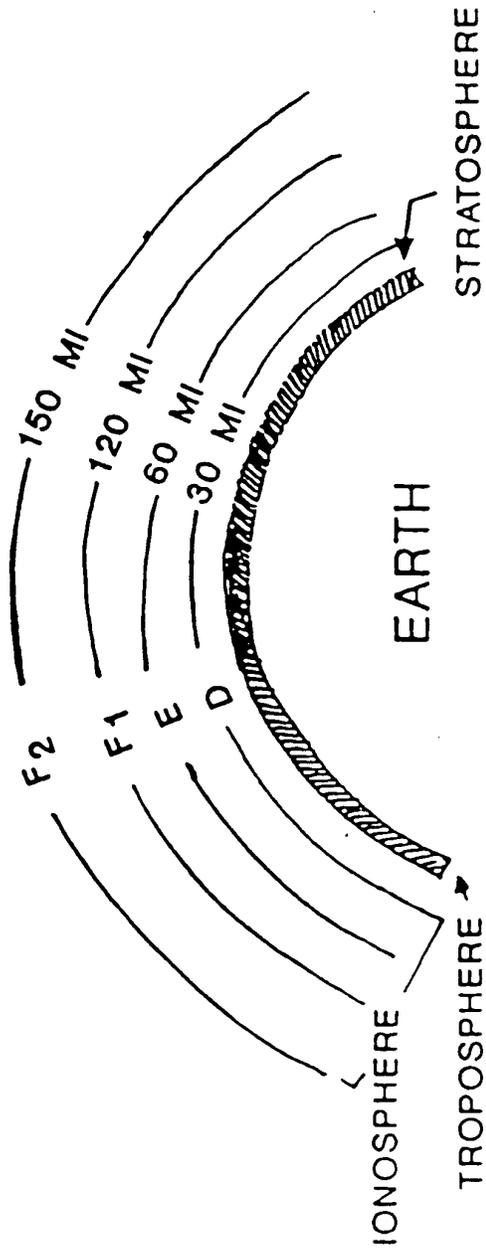
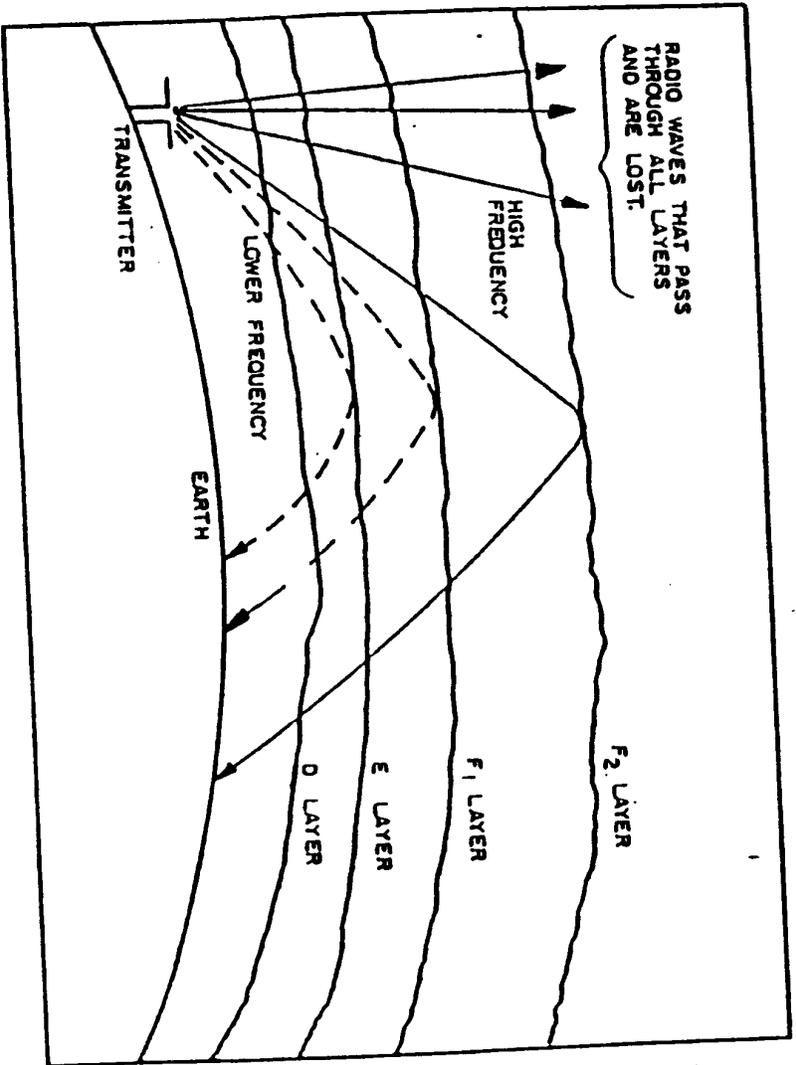

Figure 4
Figure 5. Skywave transmission paths.
THE IONOSPHERE: The ionosphere is an electrically charged region of atmospheric gases that surround the Earth. Ionization (electric charge) happens when solar radiation bombards atmospheric gas molecules and forces them to detach electrons leaving the gas molecule with a positive electrical charge called an ion and leaving free electrons in the atmosphere. Since positive electrical charges repel each other the gas ions tend to "bunch" in distinct "layers" of ions at heights of between 30 and 300 miles shown in fig 4. These charged areas will reflect radio signals back to earth if they strike the ionosphere at particular angles using particular frequency bands. Radio engineers have labeled these layers the D, E, F1 and F2 layers (see fig 4). 3 factors determine whether a radio signal will be reflected back to earth and can be used by Brigade THFRS communications systems. They are (1) the higher the radio frequency the more likely the signal will penetrate the ionosphere rather than be reflected by it, (2) the current ion density determined by the amount of sun light (time of day, season, solar activity) at the time communications is desired, and (3) the angle at which the radio wave contacts the ionosphere. See figure 5 for details. Note - that at any time of the day, year, or solar activity (sunspot) cycle there is always available a band of radio frequencies that can be reflected off the ionosphere and will support HF communications. The Automatic Link Establishment (ALE) feature of THFRS will find these frequencies for the operator from the list of authorized frequencies in the radio database. Signals on these frequencies can be used for Brigade tactical HF communications over distances of hundreds of miles unless very unusual and rare solar activity is occurring. Also note that the angle at which the wave front contacts the reflecting layer is determined by the radios antenna system. Low angles of radiation are produced by the OE-5 05 and AT- IO 1 1 vertical whips and high angle radiation is produced by bending the whips into the horizontal position with the whip tilt adaptor or by using the RF- 1 912 or RF- 1 941 wire dipole antennas 30 feet OR LESS above ground.
MAXIMUM USEABLE FREQUENCY (MUF)- LOWEST USEABLE FREQUENCY (LUF). Each layer of the ionosphere has a frequency that is the highest that the layer will reflect. The exact frequency is determined by the amount of ions in the layer. As seen in fig 5. the lower frequencies are reflected by the lower layers while the higher frequencies penetrate the lower layers and are reflected back by the higher layers. To cover the largest tactical area of operations possible the highest frequency that will reflect should be used since the higher the reflecting layer the wider the area covered by the reflection (see fig 5.). Since the ionosphere is always changing a general rule when in manual operation is to select a frequency 15% lower than the actual MUF to avoid problems. This frequency is called the frequency of optimum traffic (FOT). Signals on frequencies that exceed the MUF go through the ionosphere and are lost in outer space. The MUF is also different for different angles of reflection. Signals on lower takeoff angles can utilize higher frequencies for communications because they will be reflected. The ALE mode of THFRS will automatically prevent signals with a frequency above the @ from being selected for operations. A-LE will select the best radio frequency for communications on a continuous basis if used. A limitation of HF radio is the high radio noise (static) level on HF frequencies. Radio noise comes from sources in outer space, lightning in the earth's atmosphere, and man-made sources. Noise on a particular system depends mainly on location and season. For each situation there is a frequency (LUF) below which there is to
The heart of THFRS is the 10 pound 10.5 x 3.5 x 13.2inch AN/PRC-150(C) man-pack radio (see fig 5). This radio and all ancillaries needed for man-pack operations are provided to all configurations being built. This was done so that each THFRS user will have a "jerk and run" HF radio capability to use in the event that they must separate from their wheeled, armored, or base-station platform. 2 BB-5590, BB-590 or BB-390 standard batteries power the software controlled manpack radio. This provides an output power level of 1, 5, or 20 watts of AM single sideband (SSB) power across the 1.6 - 30 MHz spectrum. The radio is also capable of providing 1, 5, or 10 watts of FM signal on frequencies between 30 and 60 MHz. The waveform in this frequency range is either 16kbs wideband FSK for data transmission or 16kbs digital voice that makes the radio interoperable with SINCGARS in the non-hopping, encrypted or plain text digital voice mode. This mode is a very useful feature when tactical necessity dictates the need for communications with units who have no HF communications. Standard analog voice FM mode with VINSON COMSEC is also provided which will allow interoperability with organizations still equipped with pre-SINCGARS tactical FM radios. This includes many of our worldwide potential allies and our own reserve components that still have large quantities of this type of equipment.